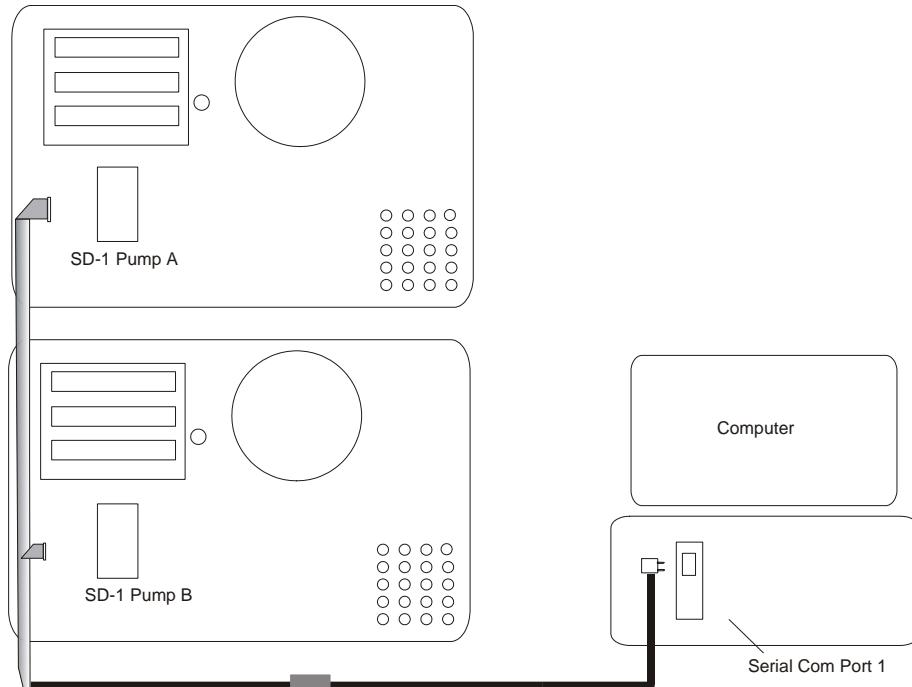
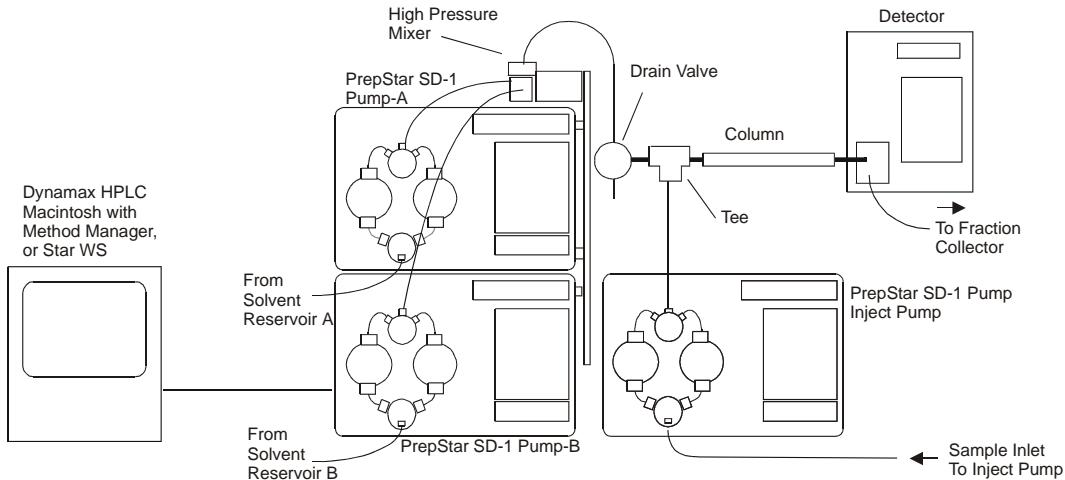

Figure 6 Connections for Remote Star Workstation Operation – IBM/PC Compatible
*Figure 10 Binary Gradient HPLC System with Computer Controller Block Diagram*
1. Refer to Figure 5, Figure 6, and Figure 3A. Connect the serial interface cable from Dynamax Method Manager, Dynamax PC, or Star Workstation.
6. For PC connections refer to Figure 6.
Figure 10 shows a binary gradient HPLC system controlled by Dynamax HPLC Method Manager, Dynamax PC, or Star Workstation running on a Mac or PC computer. The software controls the flow rates for both PrepStar SD-1 pumps. Electrical connections between the pumps and the computer are shown earlier in this section in Figure 5 and Figure 6. Refer to the manual for Dynamax HPLC Method Manager, Dynamax PC, or Star Workstation, for information on programming the method.